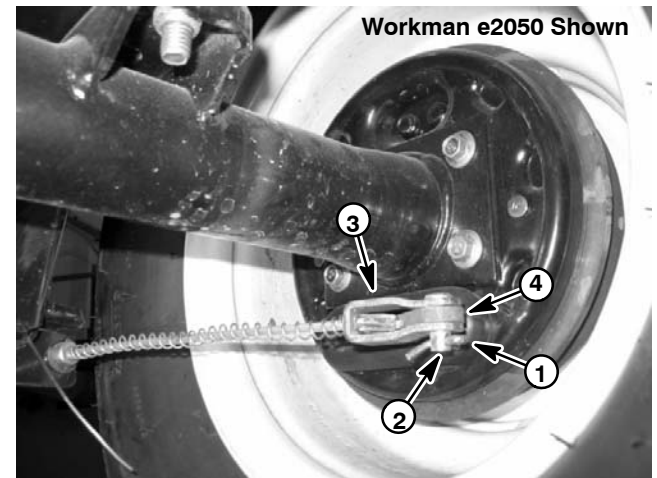

Figure 4
A. Remove cotter pin and clevis pin securing the brake cable bracket to the brake actuator lever (Fig. 4).
C. Remove four (4) cap screws and nuts securing the brake assembly to the transaxle. Remove brake assembly from the transaxle.
IMPORTANT: On Workman e2050 vehicles, the brake actuator levers must be positioned below the transaxle mount. On Workman e2065 vehicles, the levers should be positioned above the transaxle mount. When positioned correctly, the brake actuator levers will point toward the rear of the vehicle (Fig. 4).
A. Secure brake assembly to the transaxle with four (4) cap screws and nuts. Torque screws from 15 to 19 ft-lb (20 to 26 N-m).
C. Secure brake cable bracket to the brake actuator lever with clevis pin and cotter pin (Fig. 4).
4. Position wheel assembly to the vehicle with valve stem facing out and secure with five (5) lug nuts. Torque lug nuts in a criss-cross pattern from 45 to 65 ft-lb (61 to 88 N-m).